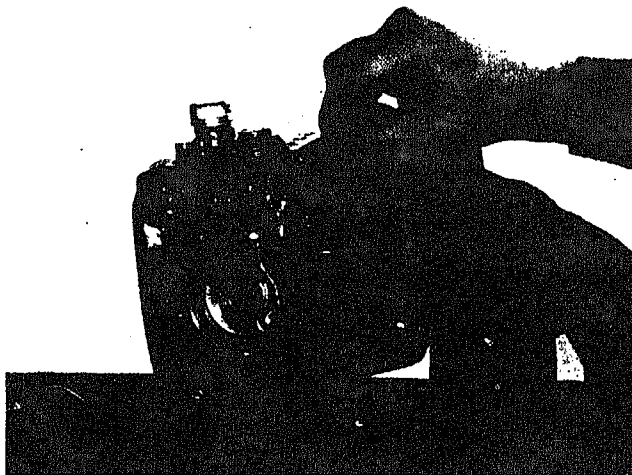

Fig. 510-7 Installing gear pump
1. Assemble the gear pump to the main housing using a new gasket. Fig. 510-7. Locate notch for right hand or left hand rotation. For right hand rotation locate notch to upper right hand corner (looking from behind the fuel pump); for left hand rotation locate the notch to bottom left hand corner.